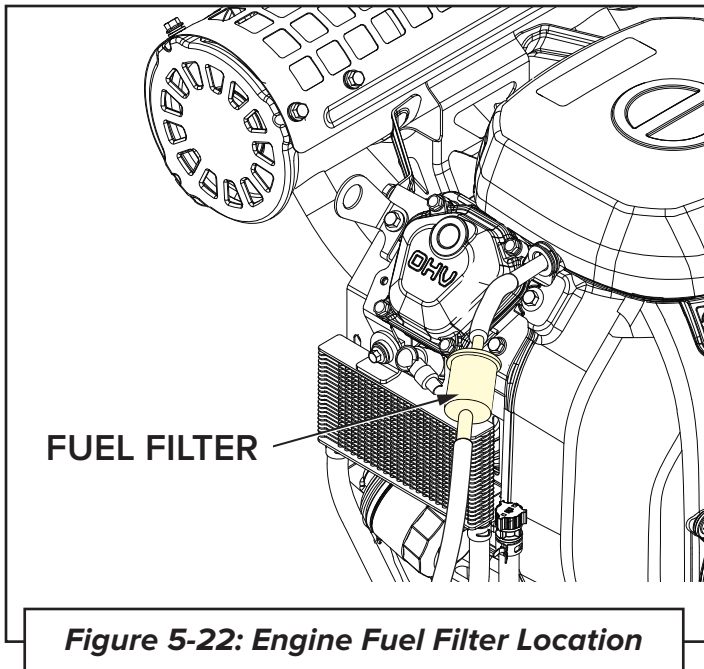

Figure 5-22: Engine Fuel Filter Location
7. Check the spark plug gap using a spark plug gap tool, and adjust as needed by bending the electrode carefully to the proper distance, which is a 0.6mm to 0.8mm gap. (See **Figure 5-22**.)